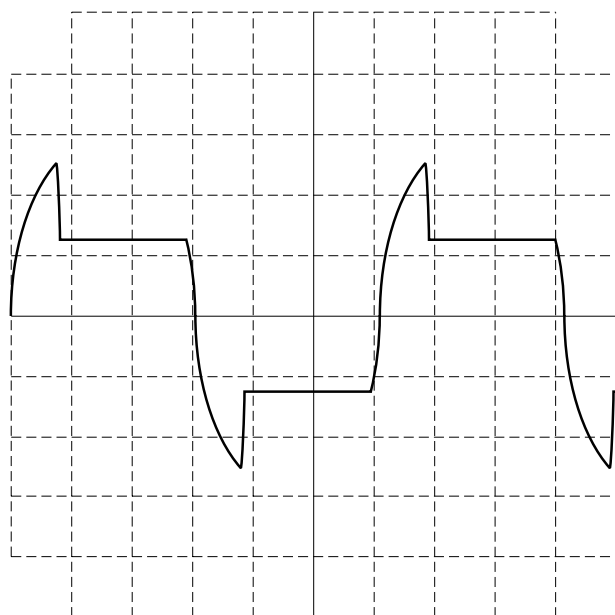

Figure 4. ODEP Limiting Wave Form
**Procedure:** Load the amplifier to 2 ohms on each channel. Inject a 60 Hz sine wave and adjust for 15 Vrms at the output. After a few minutes observe a wave form similar to Figure 4. Remove the input signal from both channels and allow the amplifier to cool for a few minutes. Switch the amplifier to Parallel Mono and remove the load from Channel 1. Inject the signal into Channel 1 and observe that ODEP limiting occurs at the output of both channels. Remove the load from Channel 2, and install the load on Channel 1. Again, observe that both channels limit. Return all amplifier controls to standard initial conditions. Remove the fan obstruction.